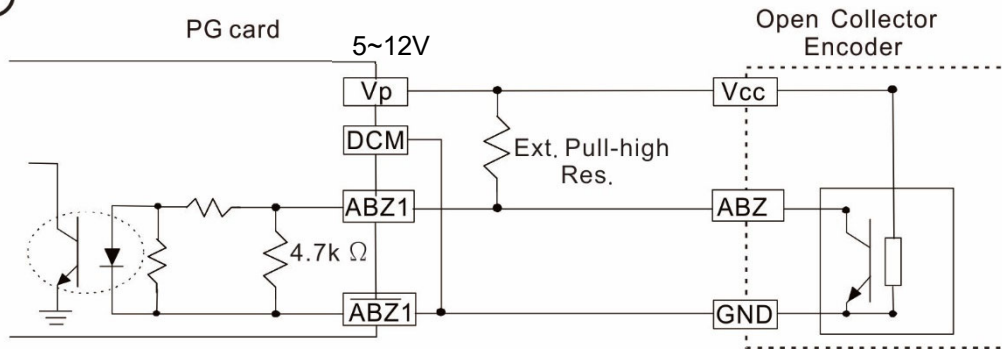
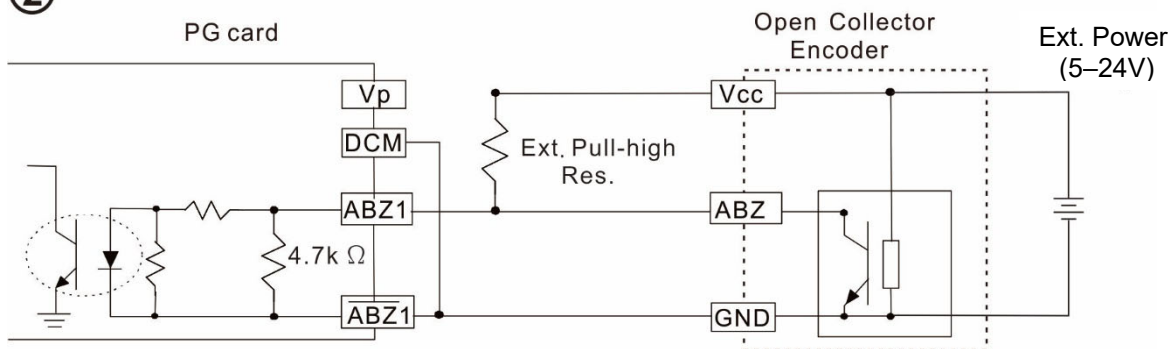

Figure 8-46
Figure 8-47
**NOTE:** Open Collector application: input current 5–15 mA to each set and each set needs one pull-up resistor. If the input voltage of the open collector is 24 V, power for the encoder must be connected externally. Refer to diagram 2 of PG1 (Figure 8-47).
Figure 8-46 and Figure 8-47 show the wiring diagrams for using open collector encoder.